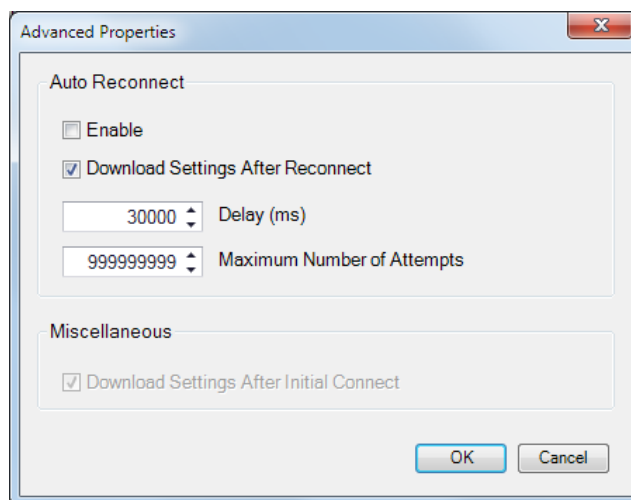

Figure 112. Advanced Properties, Auto Reconnect
8. The Advanced button displays the following window. It contains options for enabling Auto Reconnect, downloading settings after reconnect, the delay between retries (in milliseconds), and the maximum number of attempts. See Figure 112.